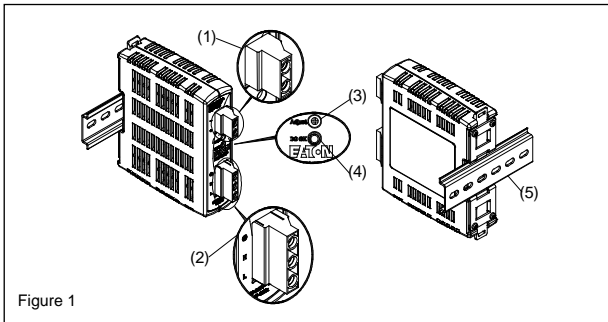
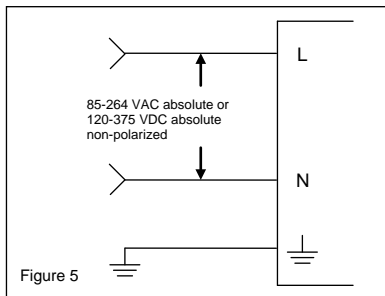

Figure 1
Figure 5
### 2. Device description (Fig. 1)
### 5.1. Input connection (Fig. 1, Fig. 5)
Use L, N and PE connections of input terminal connector (see Fig. 1 (1)) to establish the 100-240 VAC connection.
### 5.2. Output connection (Fig. 1 (2))
Use the "+" and "-" screw connections to establish the 24 VDC connection. The output provides 24 VDC. The output voltage can be adjusted from 22 to 28 VDC on the potentiometer. The green LED DC OK displays correct function of the output (Fig. 1 (4)). The device has a short circuit and overload protection and an overvoltage protection limited to 35 VDC.